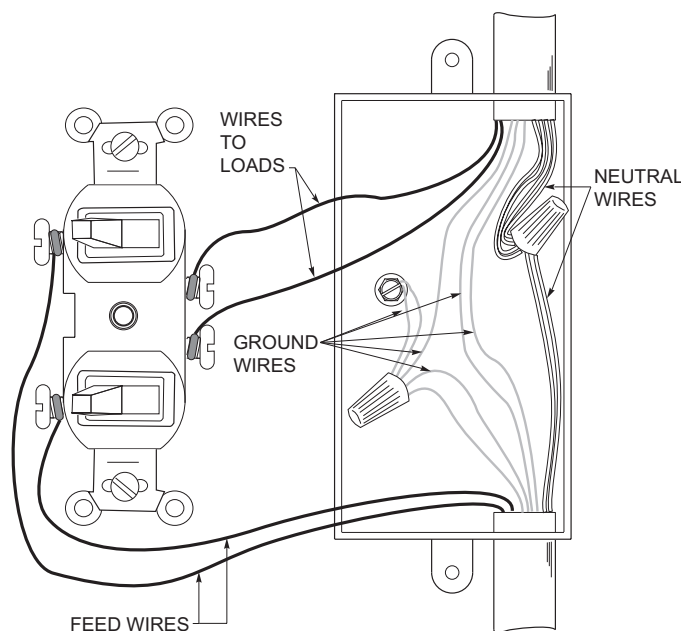

Fig. 3: Separate-circuit wiring
- Separate-circuit wiring (see Fig. 3):** Four black wires are attached to the combination switch. HOT feed wires from the power source are attached to the side of switch that has a connecting tab, and the connecting tab is removed. Wires carrying power from the switch to loads are connected to the side of the switch that does not have a connecting tab. A neutral wire should be present in the wall box. A ground wire may also be present and connected to a ground terminal on the old switch.